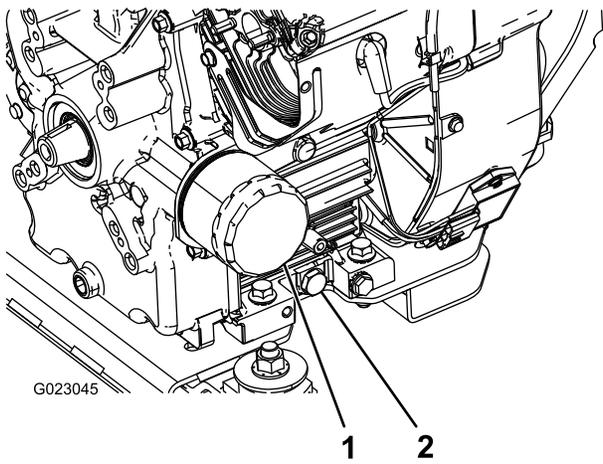

Figure 41
5. Remove the drain plug (Figure 41).
2. Remove the oil filter (Figure 41).
5. Install the replacement oil filter to the filter adapter. Turn the oil filter clockwise until the rubber gasket contacts the filter adapter, then tighten the filter an additional 1/2 turn (Figure 41).